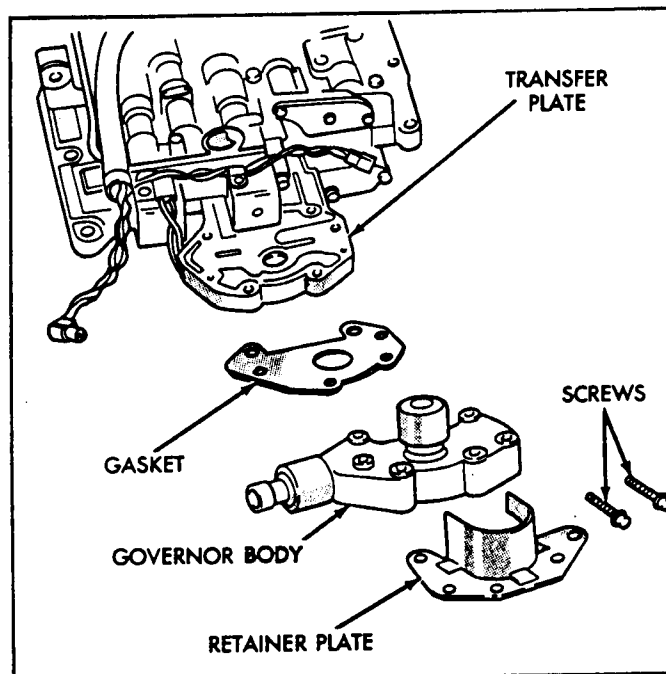

Figure 121
60. Install gasket, governor body assembly, and retainer plate on transfer plate, as shown in Figure 121.